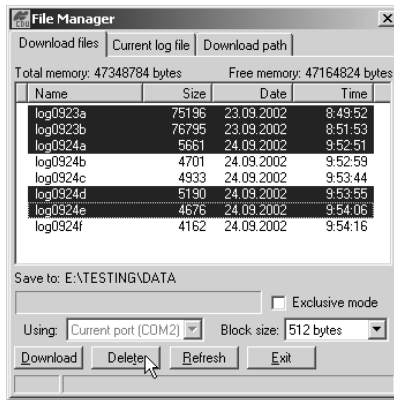

Figure 4-10. Delete Files
- On the **Download files** tab or **Current log files** tab, select the file(s) you want to delete (Figure 4-10).
- Click **Delete** (Figure 4-10).